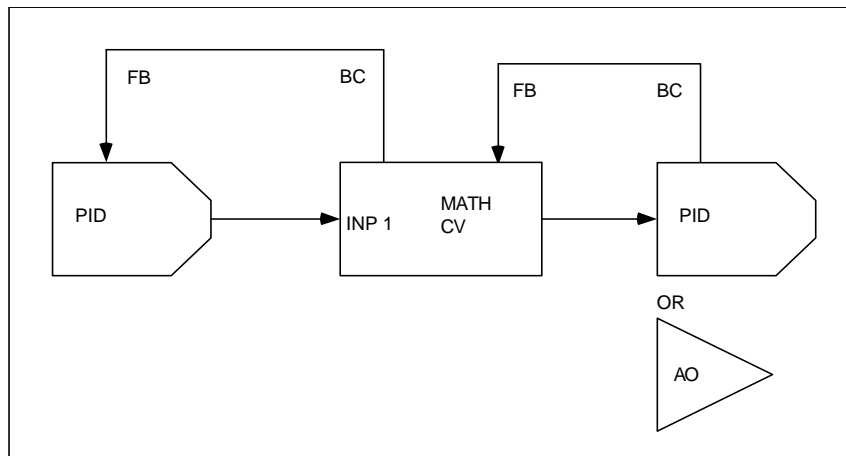

Figure 4-4 Math CV Feedback Programming
| FEEDBACK | OFF, analog parameter, number | Select LP# BC or AO# BC to propagate the back calculation (BC) value from a downstream loop or AO. Also, program the upstream loop's feedback with this Math CV's back calculation value (CV# BC). You MUST program this CV's feedback to NONE if this CV is not used as part of a control loop output configuration (Figure 4-4). If it is part of a loop configuration, the math operator cannot be ABSVAL, SQRT, or STDDEV. |